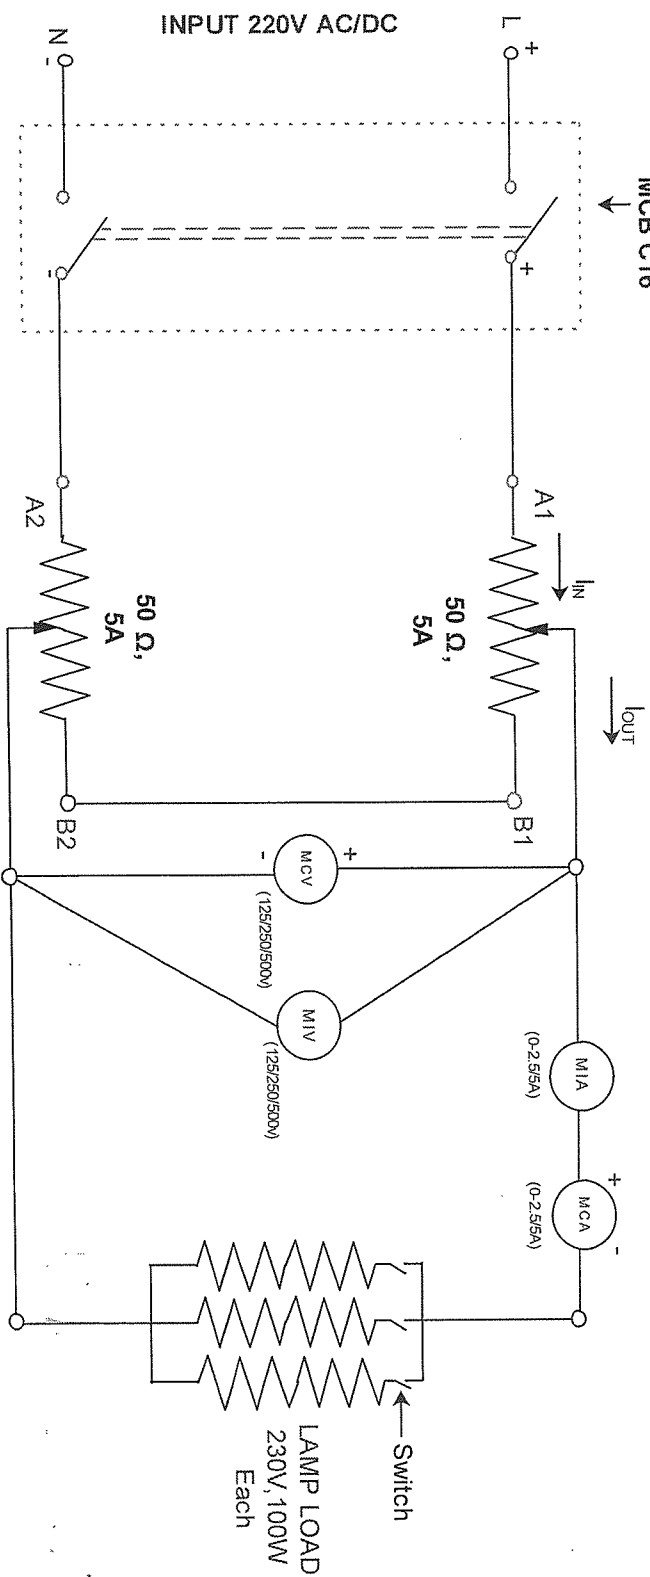

Fig: 1.3 Circuit Diagram for Familiarisation on MIA, MCA, MCV, MIV using Potential Divider
- 1) Make connections as shown in Fig.1.3.